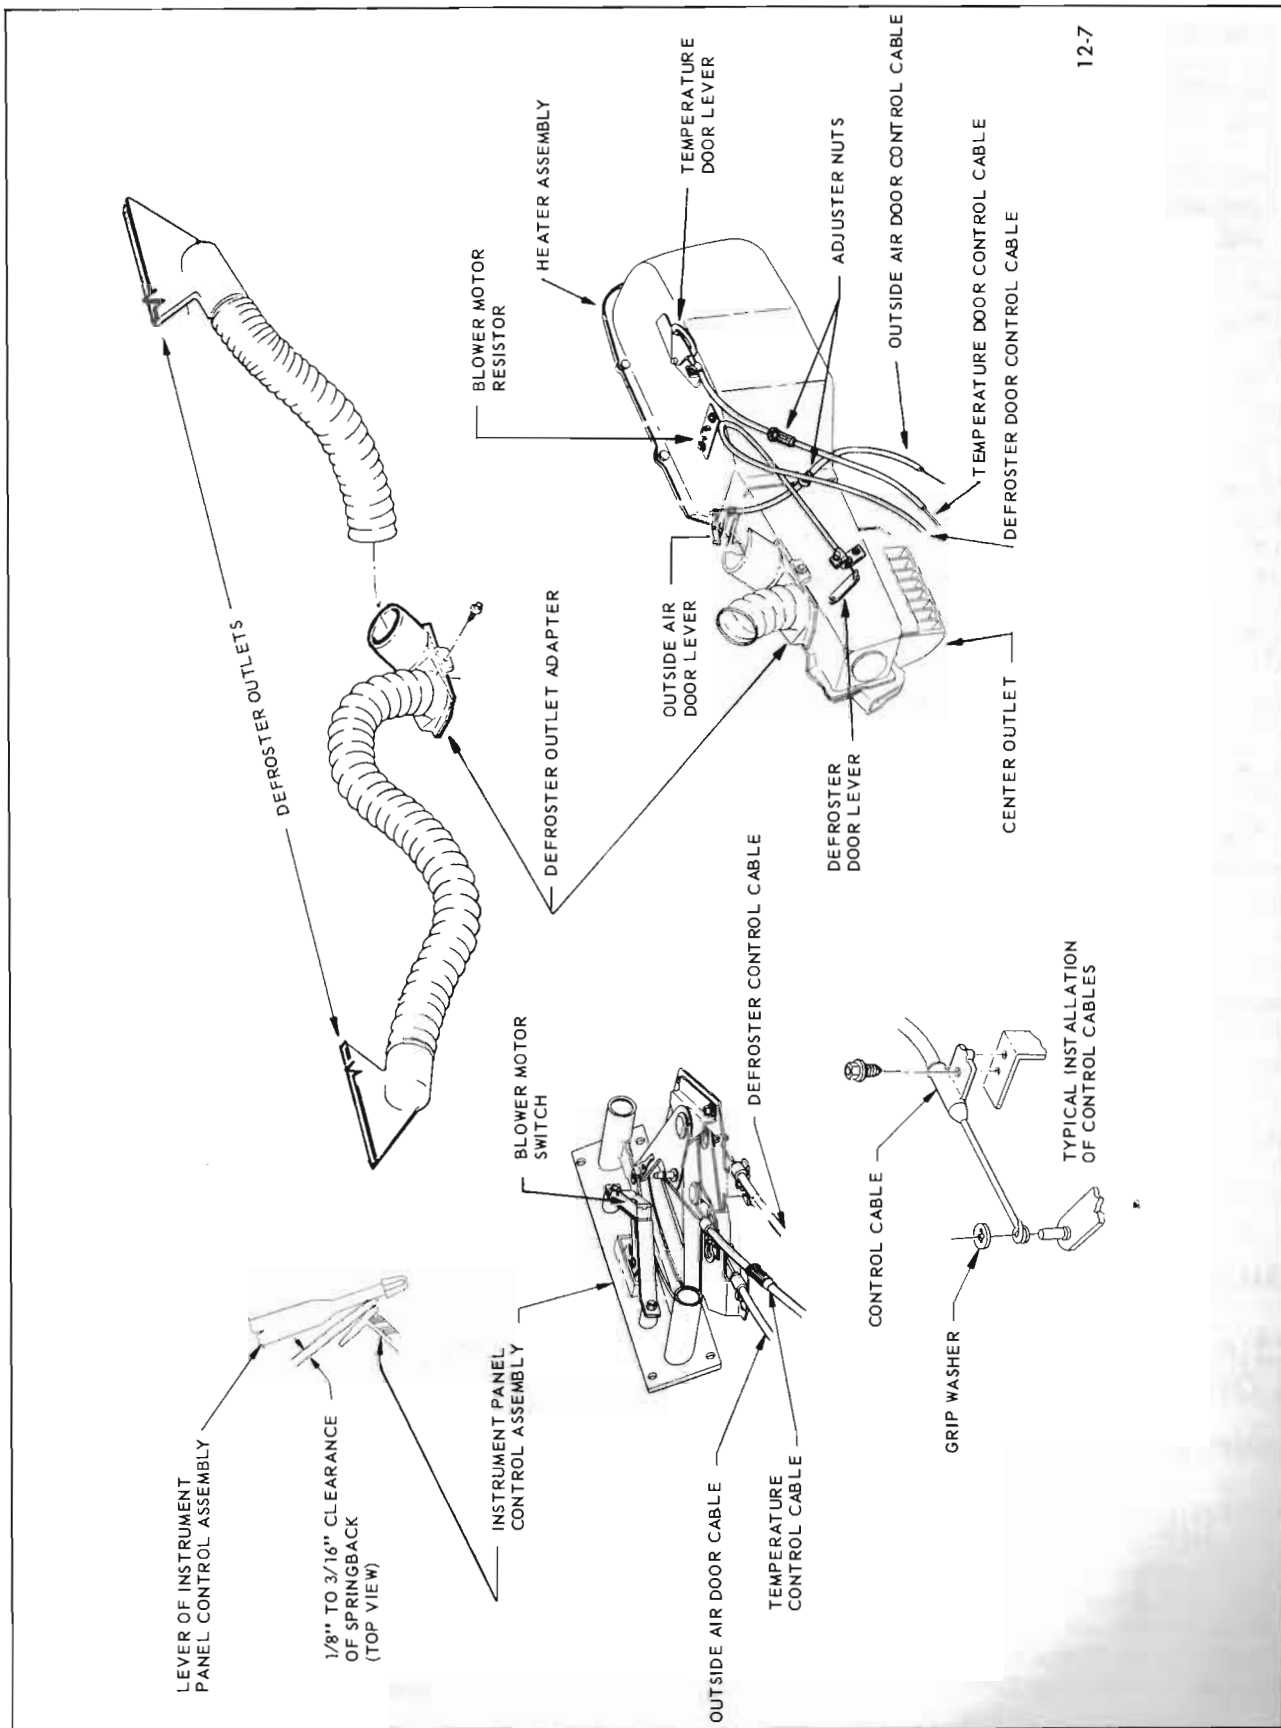

Figure 12-7—Heater and Instrument Panel Control Assembly (45-46-48000 Series)
1. Attach outside air door control cable to instrument panel control assembly. See Figure 12-7.
1. Attach temperature control cable to instrument panel control assembly (see Figure 12-7) and to temperature door lever on heater assembly.